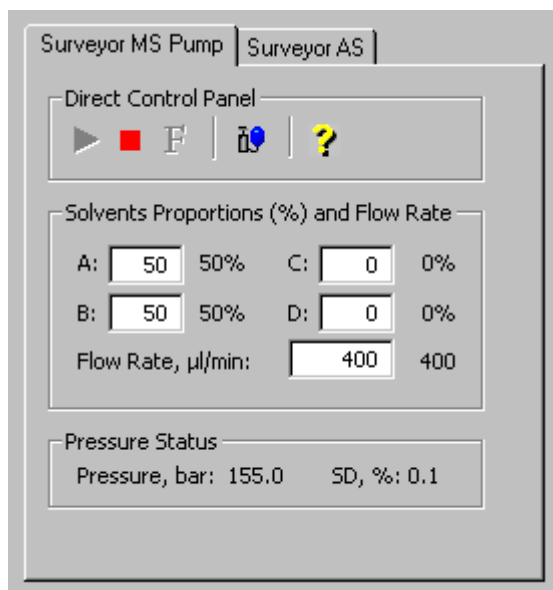

Figure 6-1. Inlet Direct Control view, showing the pump On
- i. On the Control / Scan Mode toolbar, click on the AS/LC Direct Control button to display the Inlet Direct Control view in the top right corner of the workspace. See Figure 6-1.